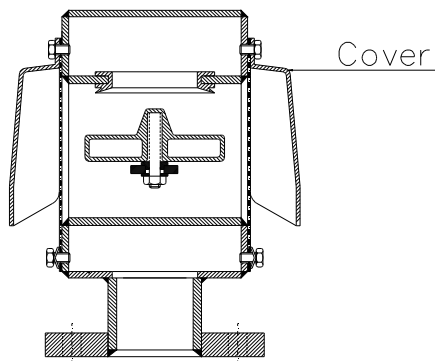

fig 1
- First remove the side covers/side plates by disassembling the bolts (fig 1 and 2)